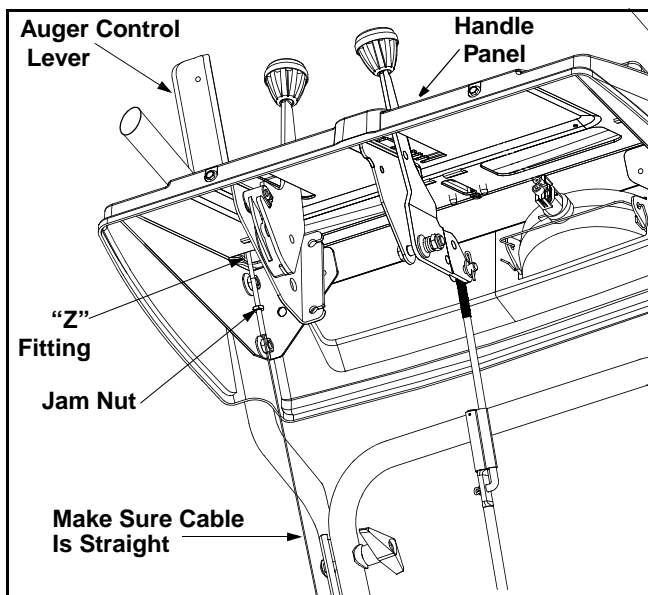

Figure 9
- Retighten the hex jam nut. See Figure 9.